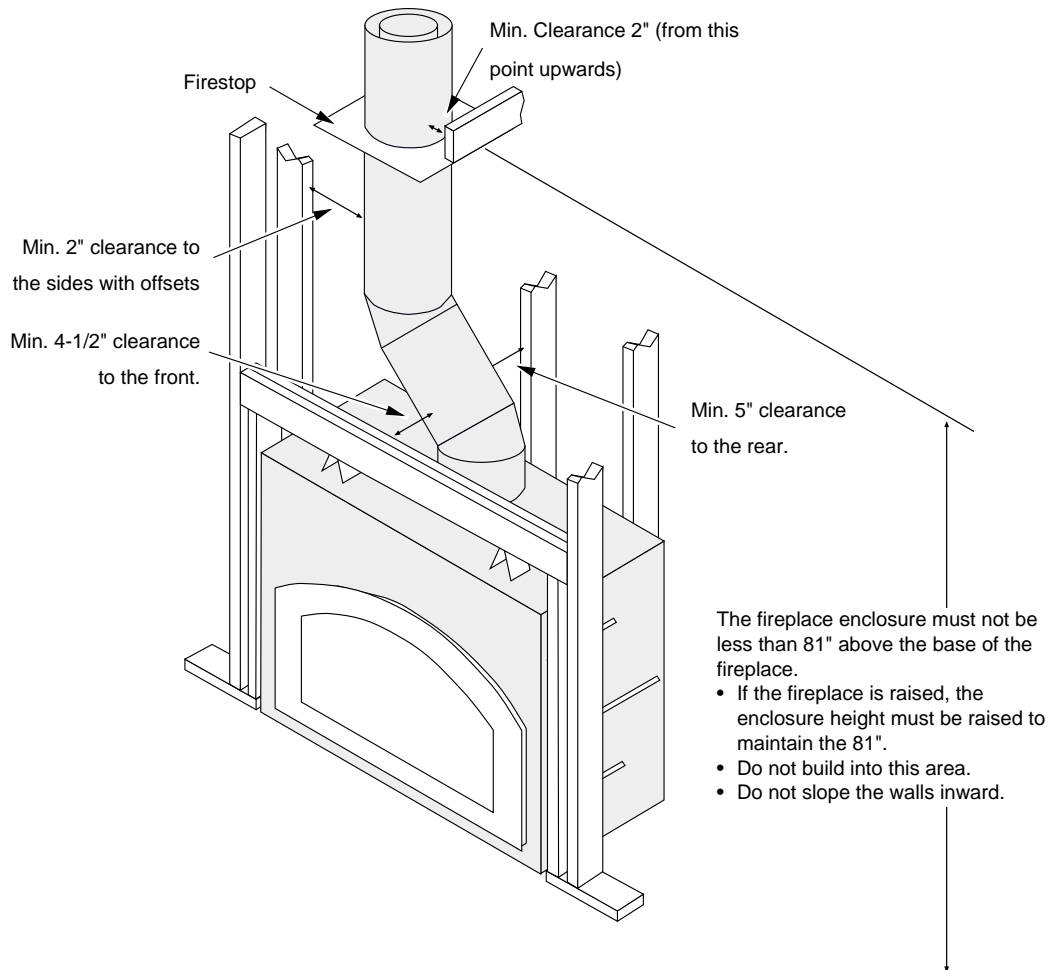

Figure 21
- Maintain a 2" clearance from the chimney to combustibles (measured horizontally). See Figure 21.